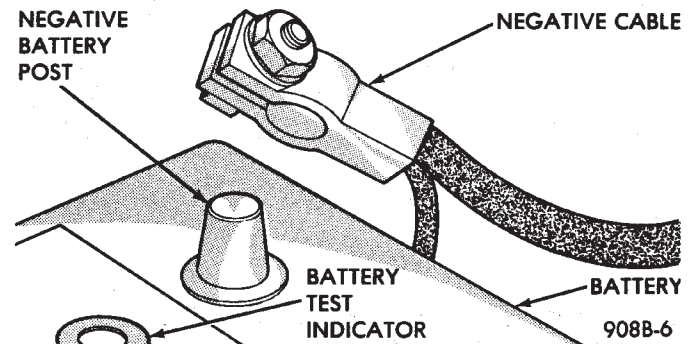
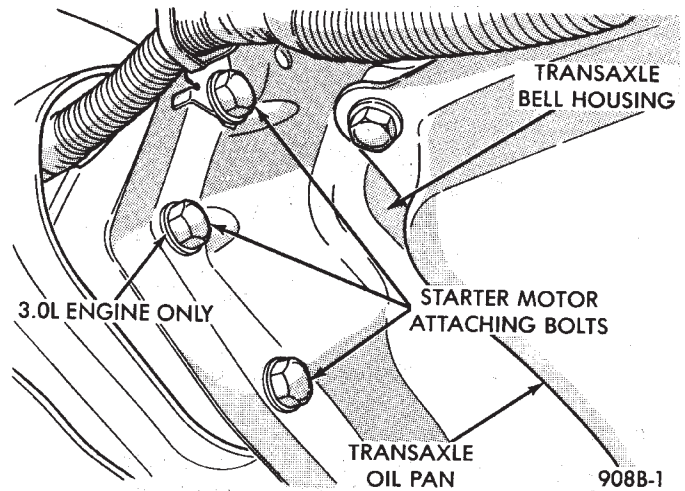

Fig. 1 Remove or Install Battery Cable
Fig. 4 Remove or Install Attaching Bolts
- (1) Disconnect battery NEGATIVE cable (Fig. 1).
- (1) Disconnect NEGATIVE battery cable (Fig. 1).
- (2) Raise vehicle.
- (3) Remove three starter attaching bolts from engine/transaxle (Fig. 4).